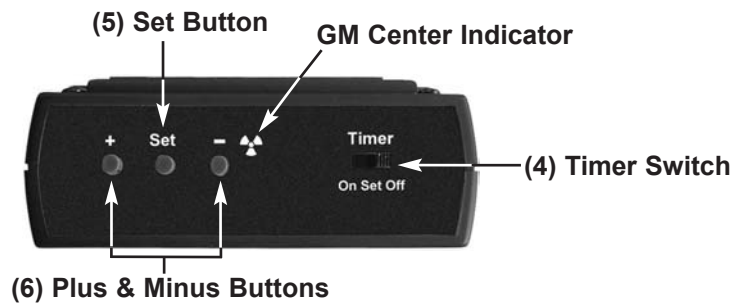

Figure 2 End Panel View
### Timer Switch (Figure 2 (4))
### Set Button (Figure 2 (5))
### + and - Buttons (Figure 2 (6))